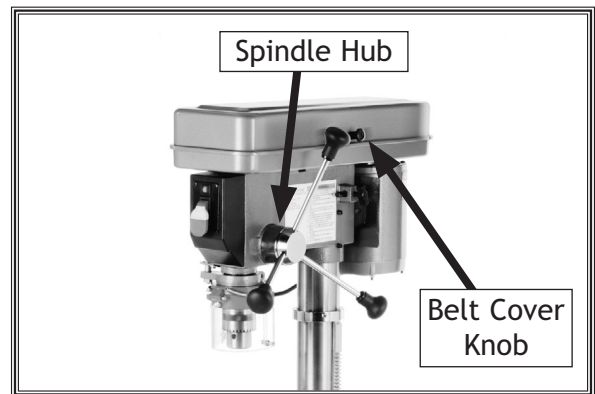

Figure 15. Downfeed handles and belt cover knob installed.
1. Thread the knobs onto the handles, then thread the handles into the spindle hub, as shown in **Figure 15**, and tighten.
2. Install the belt cover knob in its place (see **Figure 15** for location).